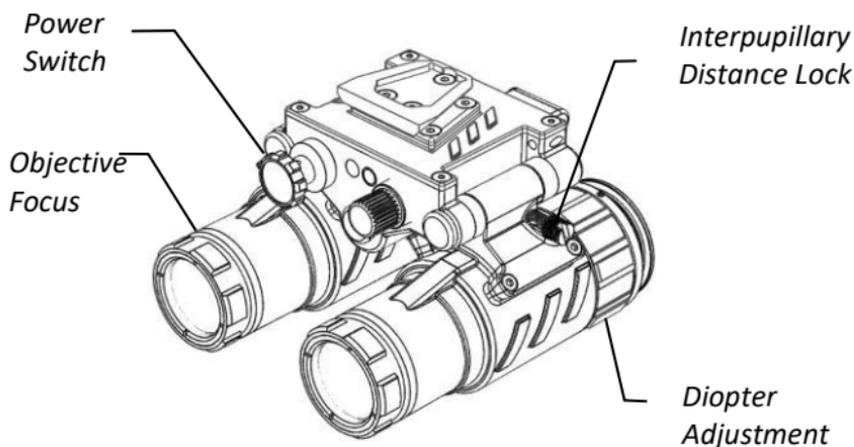

Figure 1-4. Mechanical Functions of the NORTIS-BNVS-31
a. Demist Shield. The demist shield (Figure 1-4) is used to prevent the eyepiece lenses from becoming fogged.
b. Sacrificial Windows. Replaceable sacrificial windows (Figure 1-4) are supplied to protect the objective lens during operation in adverse conditions.